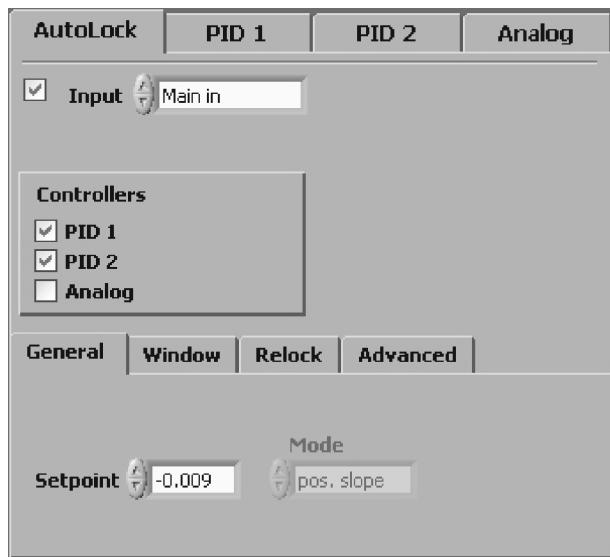

Figure 39 AutoLock Setup for the PID Controllers
15. First the **AutoLock** module is activated and the controllers **PID 1** and **PID 2** are selected by checking the corresponding boxes (see Figure 39). **PID 1** will handle the high frequencies (by controlling the laser current via the modulation option in the laser head) whereas **PID 2** will be responsible for the lower frequencies by controlling the piezo voltage. As input channel select <Main in> where the photodetector signal enters the module. In AutoLock mode the input channel chosen in the **AutoLock** tab (see Figure 11) is taken as input for all the selected controllers.